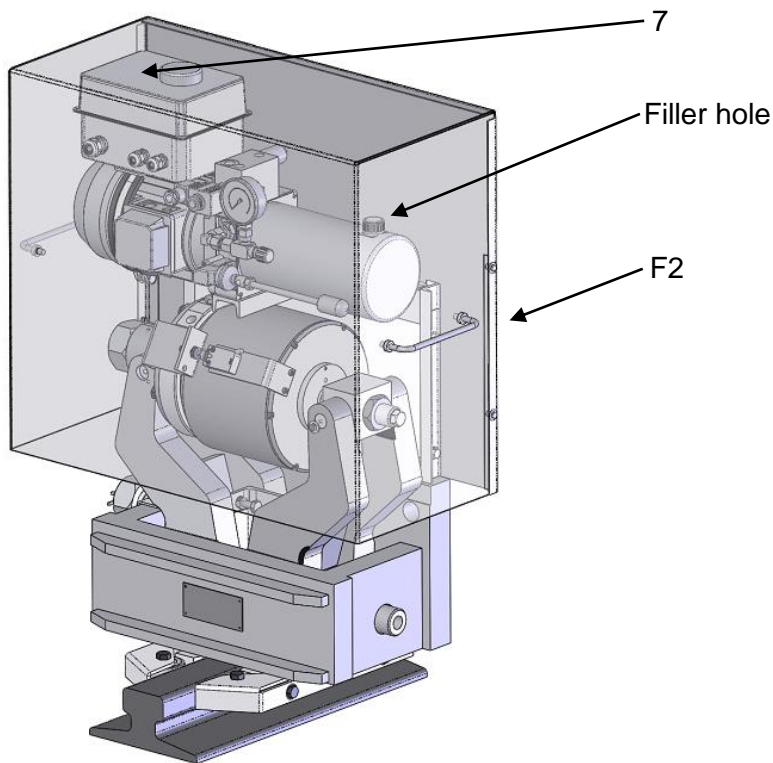

Fig. 2.15
3. Remove the unit's cover (optional) by unscrews the 4 screws F2 (see Fig. 2.15).